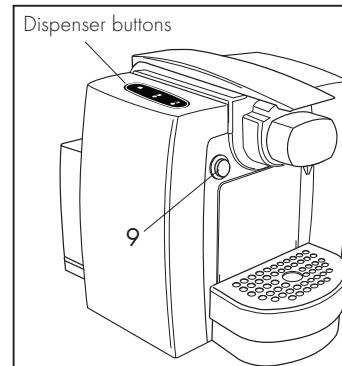

Fig. 4
- Switch on the appliance with the main switch (9). **(Fig.4)**
- When the led (2) turns on, the coffee machine is ready for use **(Fig.4)**.
- The control buttons will start flashing. Once the right temperature is reached, they will illuminate steadily, indicating that the machine is ready for use **(Fig.4)**.